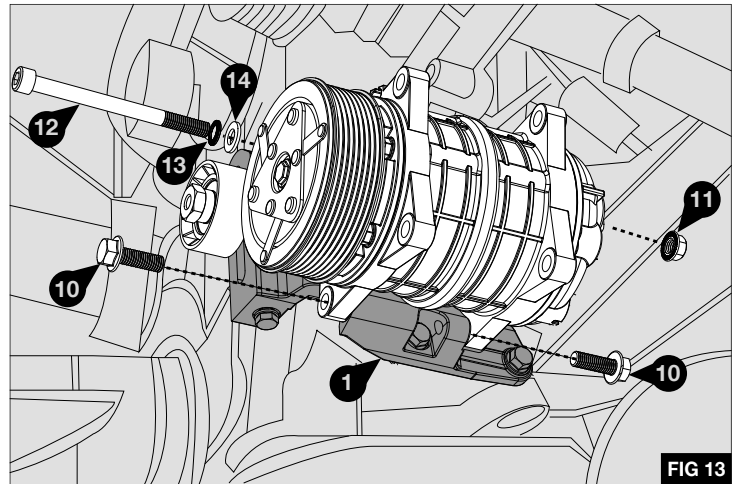

FIG 13
1. Fit the compressor to the previously fitted mount bracket assembly (1) using bolt (12) M10 x 130 with M10 Schnorr safety washer (13) and M10 flat washer (14) and Durlok M10 nut (11) then secure with M10 x 30 bolts (10) - Fig 13
2. Torque bolts (10) and (12) to 50Nm using a calibrated torque wrench.